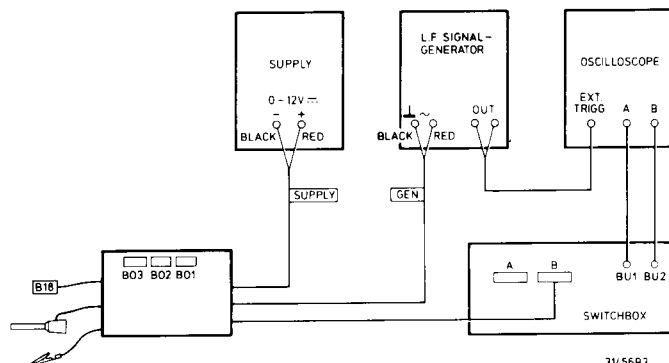

Fig. 6
- Connect the signal generator, the oscilloscope and the d.c. power supply, as shown in Fig. 6.